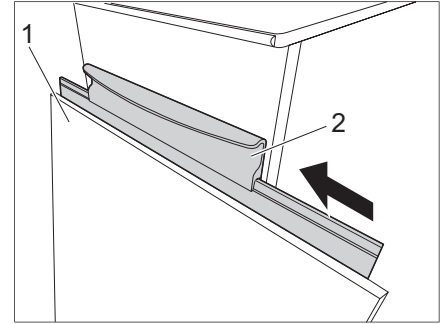

Fig. 31 Attach the table-top
- Attach the table-top (Fig. 31,1) into the piping strip (Fig. 31,2).